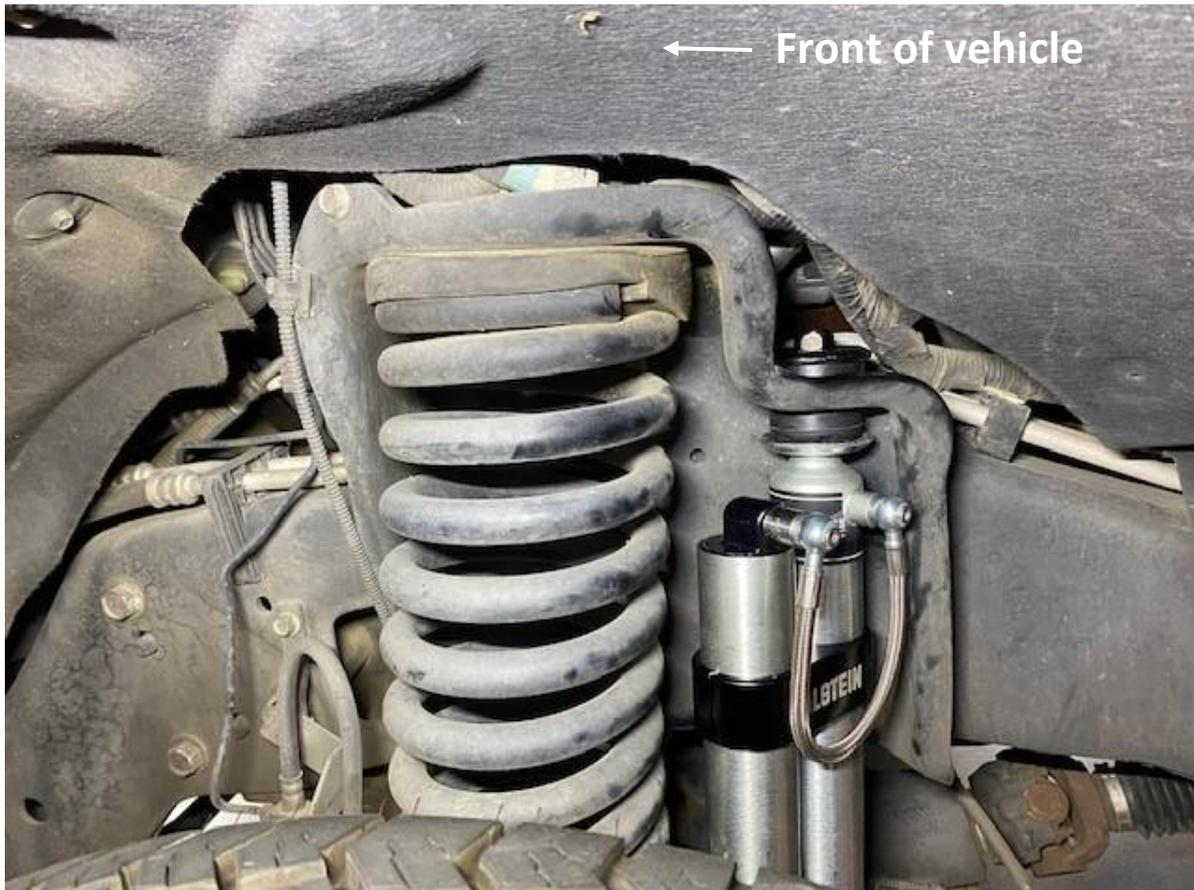

Figure 1. Driver's Side
- C. Position each reservoir as depicted in Figure 1 (Note: Figure 1 shows the driver side, the passenger side is a mirror image).